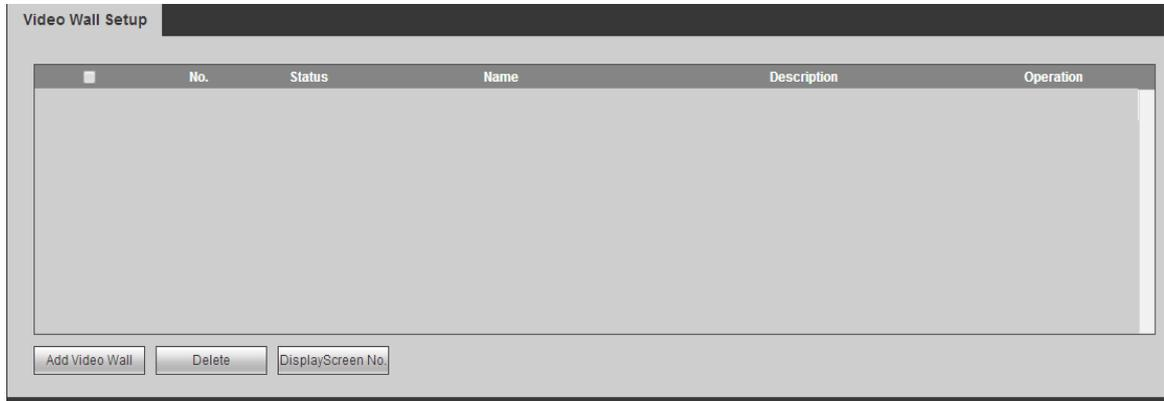

Figure 3-4
**Step 1** Click  in the center or  at the lower right corner of the screen, to enter "Video Wall Config" interface, as shown in Figure 3-4.